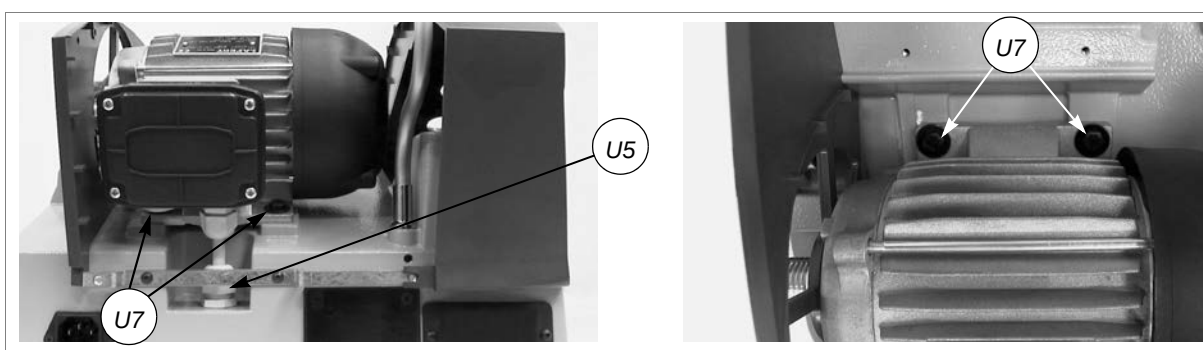

Fig. 46
- 10) Loosen the fairlead (U5) (fig.46).
- 12) Loosen the 4 fixing screws on the motor (fig.46) and remove, paying attention to the wire.